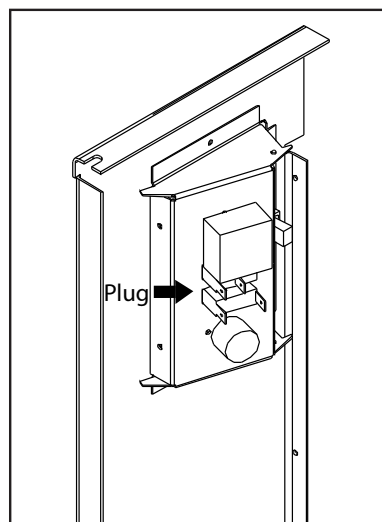

Figure 28: Control Panel Back - Timer.
After the surround has been assembled and is ready to be installed on the unit, plug the wiring harness into the control panel (see Figure 28).
3. Plug the wiring harness into the control panel (see Figure 28).